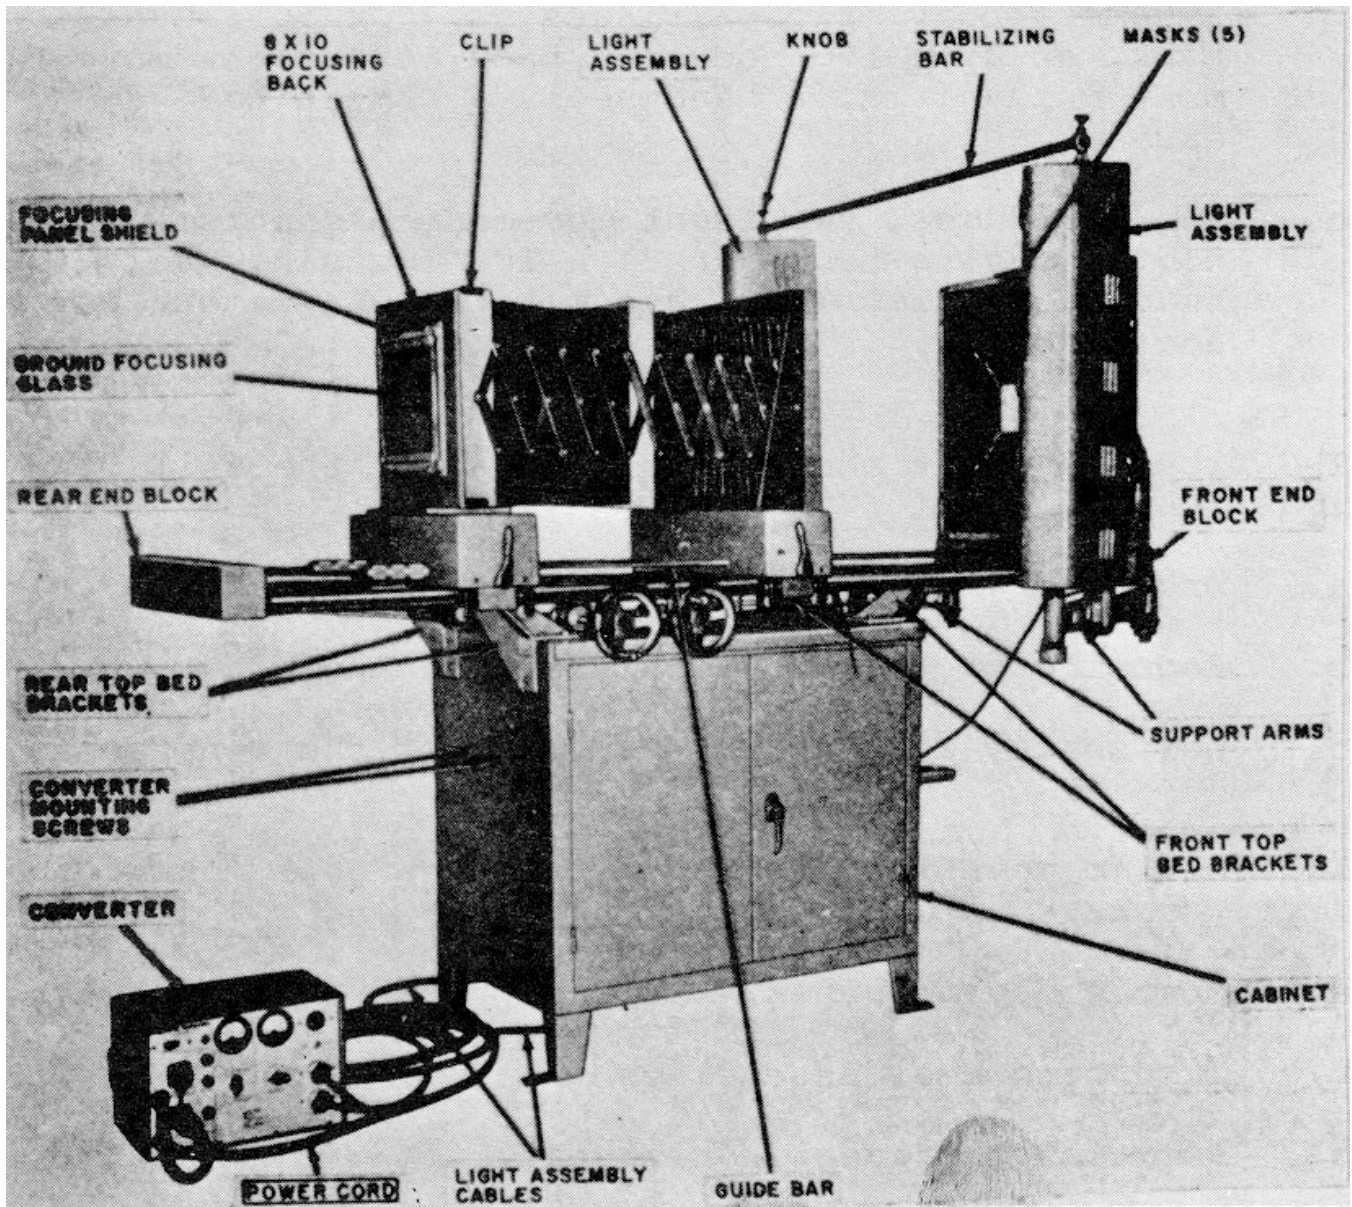

FIGURE 3. Camera set, set up for horizontal operation, right-rear view.
(1) Masks. Five standard size interlocking masks (figure 3), ranging in masks size from 3 1/4" x 4" through 11" x 14", are used to exclude extraneous light from the camera lens. The large mask can be used by itself to frame an object on the easel. However, when a smaller mask is used, it must be mounted within the next largest mask. Thus, when the smallest mask (3 1/4" x 4") is used, the largest mask must be first mounted on the easel.
1-4 Description of Lighting System (figure 3)
b. Light assemblies (figure 3). The two light assemblies use standard incandescent lamps (four 150-watt incandescent lamps in each assembly). The light assemblies are supported by a carriage assembly (two support arms) that are secured to the front end block. Each light assembly has its own 15-foot interconnection cable (light assembly cable).